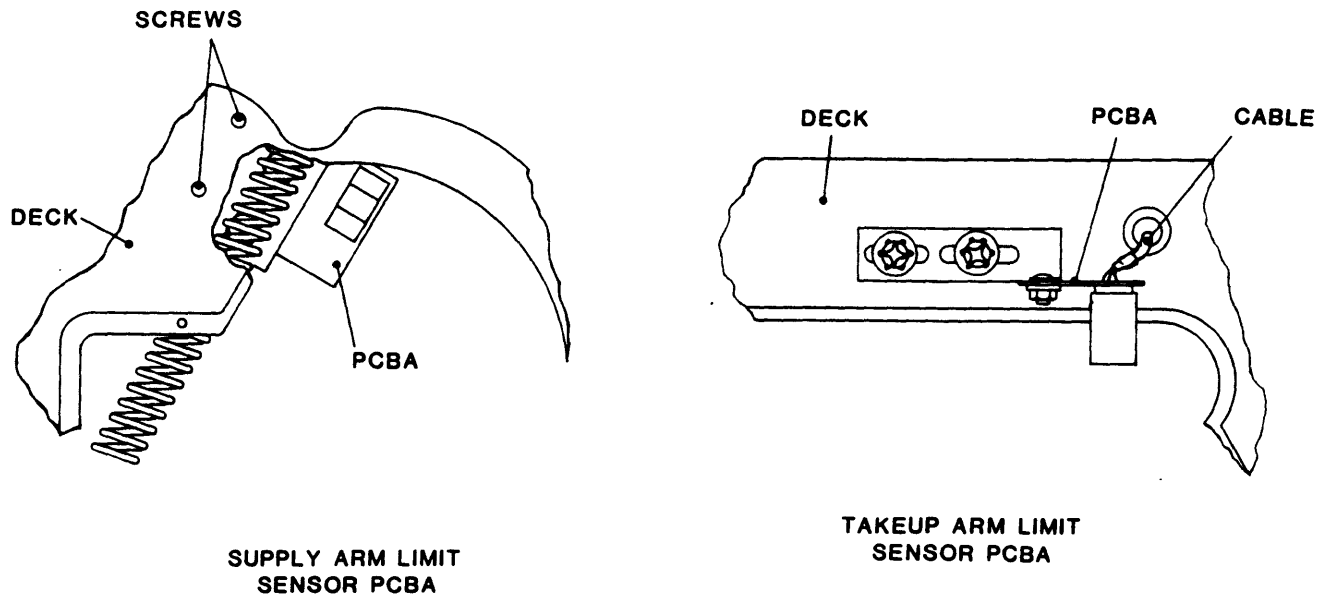

Figure 4-13 Supply-Arm and Takeup-Arm Limit Sensor PCBA's
4.3.13 TAKEUP ARM LIMIT SENSOR PCBA (Fig. 4-13)
4.3.14 SUPPLY ARM LIMIT SENSOR PCBA (Fig. 4-13)